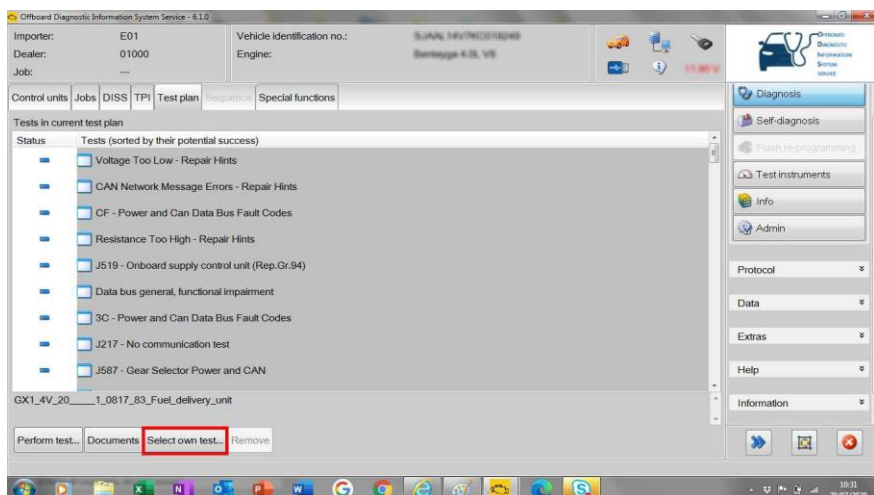

Figure 2.
- Select “*Select own test*” – figure 2.